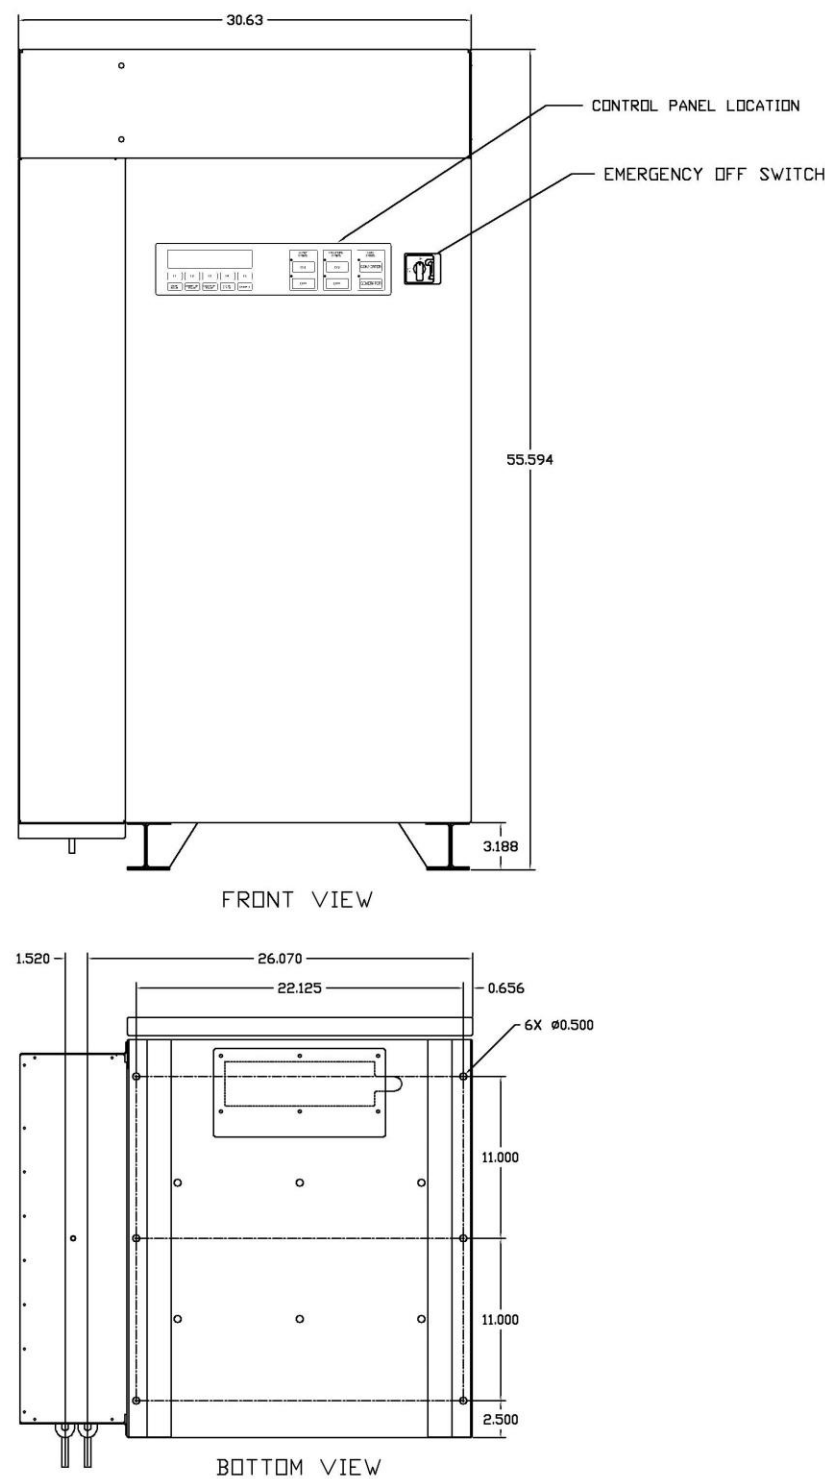

FIGURE 4 MECHANICAL OUTLINE AND CONTROLS
* There are two copper water lines that face backwards which are an additional 2"/5.1cm in length (see Figure 4 on page 16).